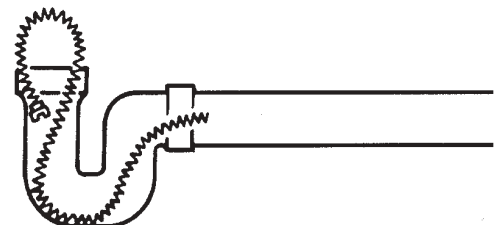

Figure 6 – Looping Cable In Line
- Secure the cable by looping it in the line (Figure 6). This procedure is especially useful when cleaning a line with a steep grade.